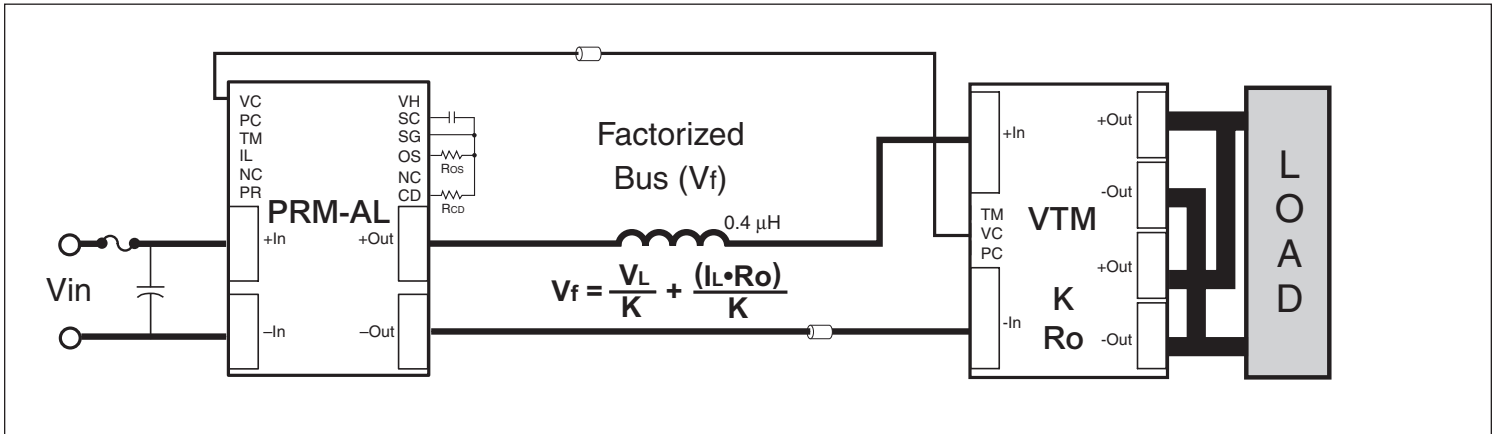

Figure 16 — Adaptive Loop compensation with soft start using the SC port.
- V_f = PRM output voltage, the Factorized Bus (see Figure 16)
An external capacitor can be added to the SC port as shown in Figure 16 to control the output voltage slew rate for soft start.